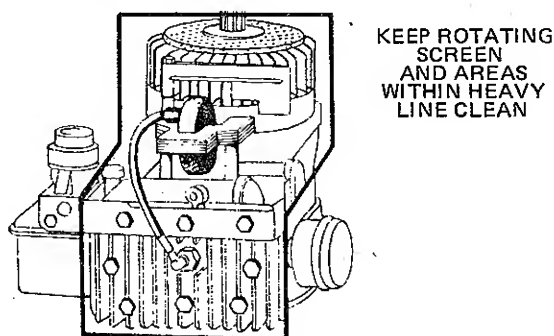

Figure 15.
3. **CLEAN COOLING SYSTEM.** Grass, chaf or dirt may clog the rotating screen and the air cooling system, (Figure 15), especially after prolonged service cutting dry grasses. To avoid overspeeding, overheating and engine damage, remove the blower housing and clean the area shown. This should be a regular maintenance operation.